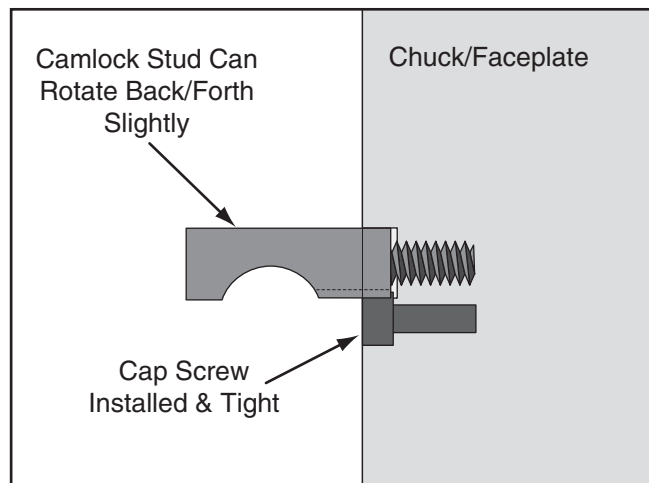

Figure 37. Camlock stud and locking cap screw correctly installed.
4. Install and fully thread the locking cap screws. Make sure that the camlock studs can rotate slightly back-and-forth against the head of the locking screw (see **Figure 37**).